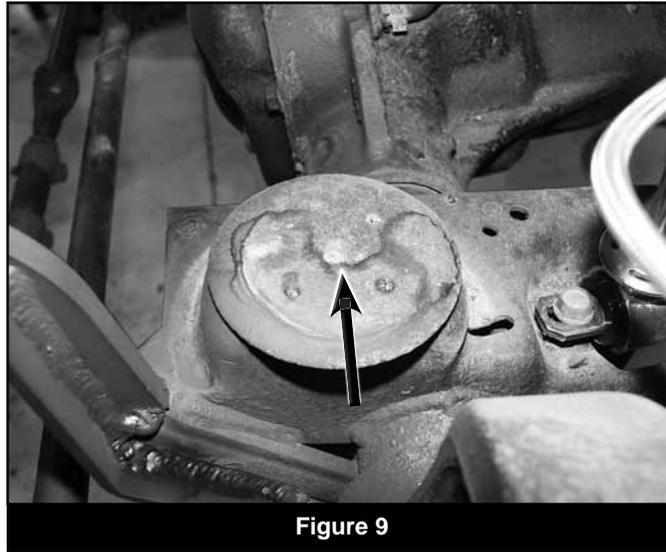

Figure 9
33. Locate the center of the coil mount on the axle and drill a 11/32 or T size drill (Fig. 9). Using one of the provided 3/8" self-tapping bolts (BP #438), tap the hole and remove the bolt. A lower bump stop extension will be installed here when the coil spring is installed.